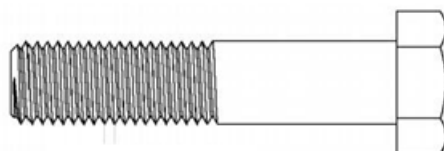

Figure 1: Bolt
b. Figure 1 demonstrates an example of a bolt.